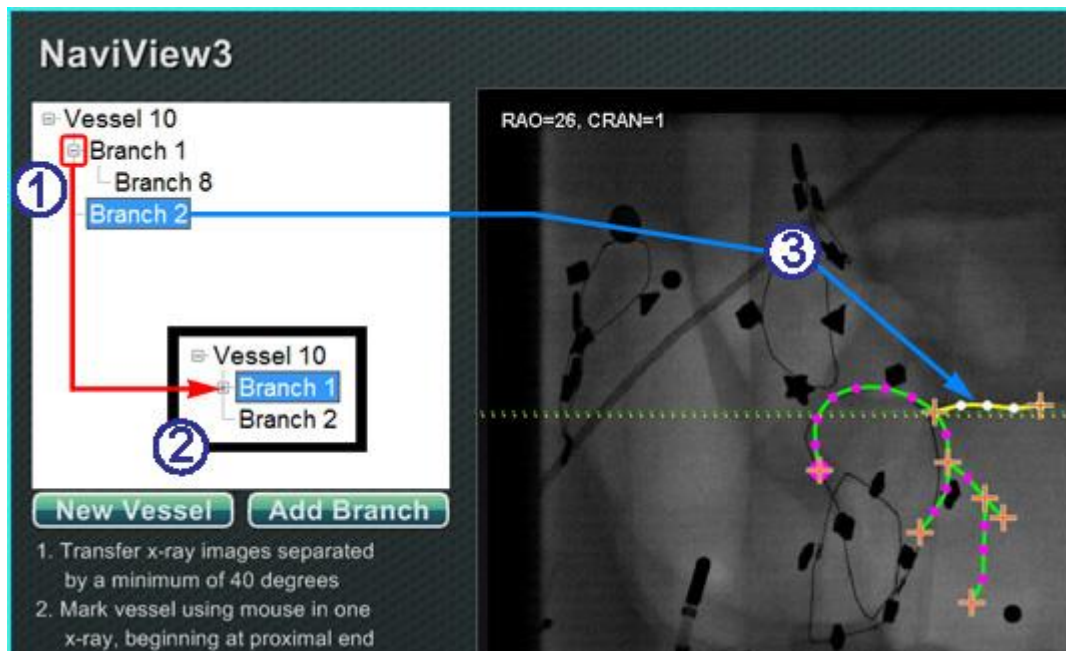

Figure 238. Directory tree tracks vessels and branches
Following the process outlined above, you can create more branches off existing branches and trunks (Figure 238). You can create as many vessels and branches as you want.
Add more branches guide (Figure 238)
- ① As you add vessels and branches, the directory tree grows. The indentation of each branch name indicates the branch level. So, a branch name indented twice is the branch of a branch.
- ② You can expand and collapse the vessel and branch names as branches are added beneath them. For example, you can collapse Vessel 1 in Figure 238 by clicking the minus (-) sign. Only the name Vessel 1 will display. You also can collapse Branch 1. You can expand either group by clicking the plus (+) sign.
- ③ Click a vessel or branch name to select that vessel or branch. The name is highlighted with a bright blue rectangle, and the drawing is highlighted in the selected mode colors: yellow and white.